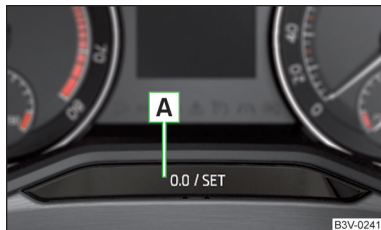

Fig. 48
- › Press and hold the button **A** » Fig. 48 until the **Service** menu item is shown in the display.